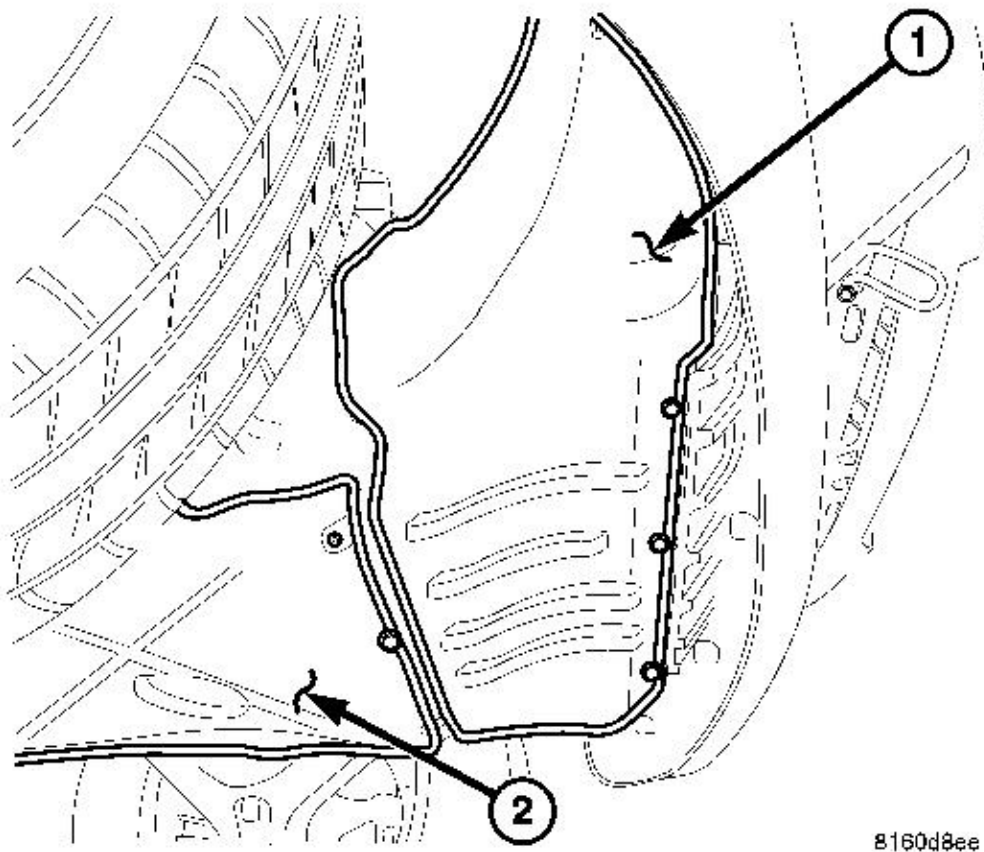

Fig. 295: Front/Intermediate Splash Shields
7. Install the intermediate (2) and front (1) underbody splash shields. See **Fig. 295**.